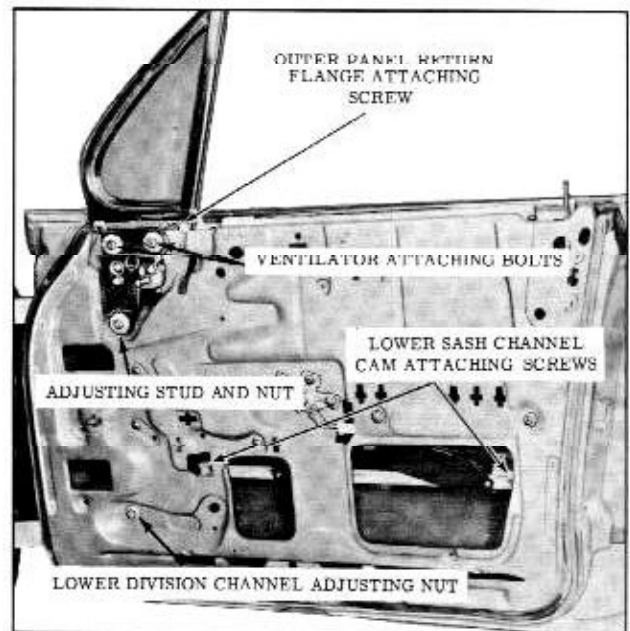

Fig. 17-33 Window and Ventilator Attachment
2. Lower door window. Remove ventilator to door outer panel return flange attaching screw. (Fig. 17-33)
4. Remove ventilator division channel lower adjusting stud and nut. (Fig. 17-33)
6. Loosen ventilator frame adjusting stud nut and remove ventilator attaching bolts, (Fig. 17-33) then carefully lift ventilator assembly upward and rearward and remove from door.
2. Remove ventilator frame to outer panel attaching screw. (Fig. 17-33)
4. Remove window lower sash channel cam attaching screws and disengage cam from window sash channel. Lift window assembly upward and remove from door. (Fig. 17-33)
2. Lower door window to expose lower sash channel cam attaching screws and remove screws. (Fig. 17-33)